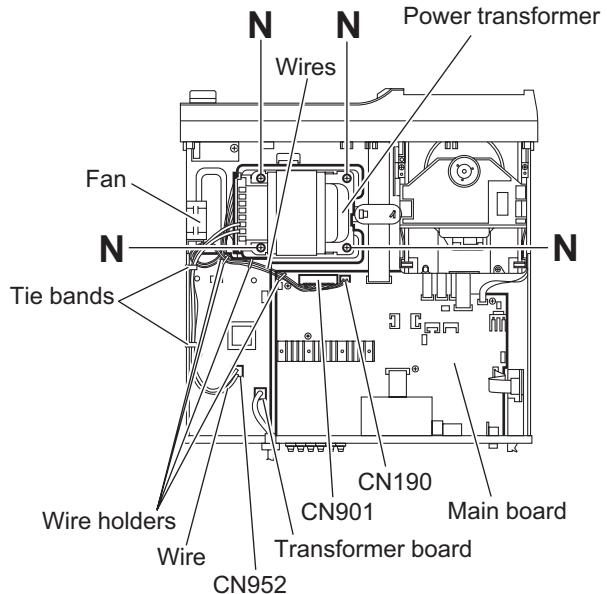

Fig.16
(See Fig.16)
(See Figs.16 and 17)
- (1) From the top side of the main body, remove the wire holders bundling the wires. (See Fig.16.)
- (2) Disconnect the wire from the connector CN190 on the main board. (See Fig.16.)
After connecting the wire to the connector CN190, bundle the wires with the wire holders as before. (See Fig.16.)